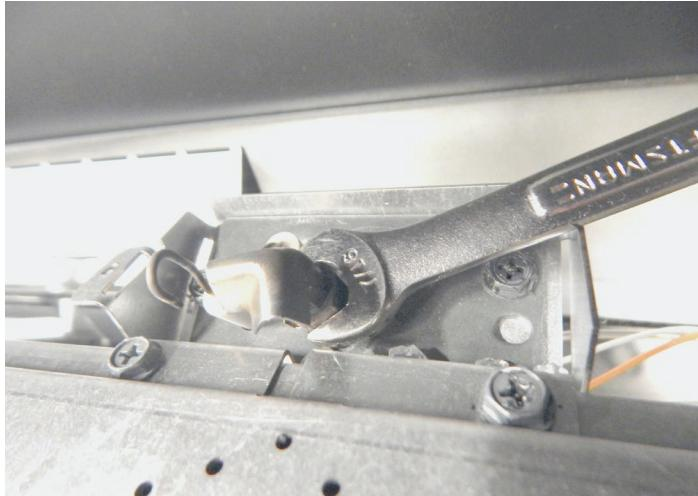
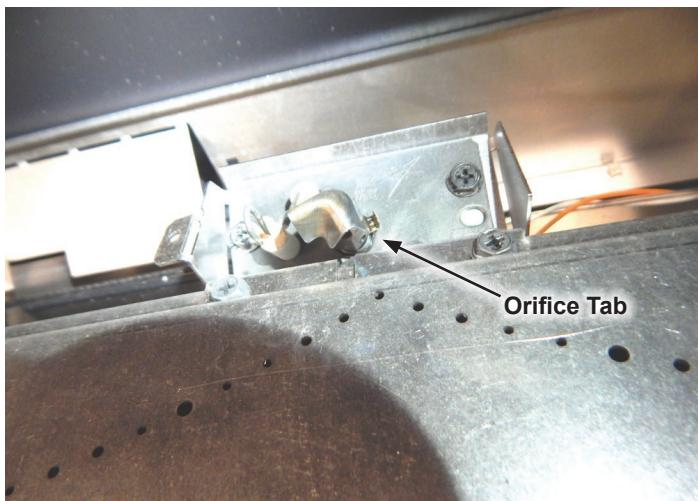

Figure 9
Figure 10
16. Re-install the (4) 5/16" Hex screws removed in step 10 above to secure the Burner assembly.
17. To convert the pilot from Propane gas to Natural gas, loosen the pilot hood assembly slightly using a 7/16" wrench. **See Figure 9.** Just below the pilot hood and nut is a small orifice tab that slides sideways. **See Figure 10.** A small screwdriver may be used to gently move the small orifice tab over to change the gas type. Do not force. The orifice tab has gas types stamped on the tab. Make sure the type of gas being converted to is indicated on the tab, then re-tighten the Pilot hood so that the hood flame points forward to the burner, and left to the sensor. Do not overtighten. **See Figure 9.**